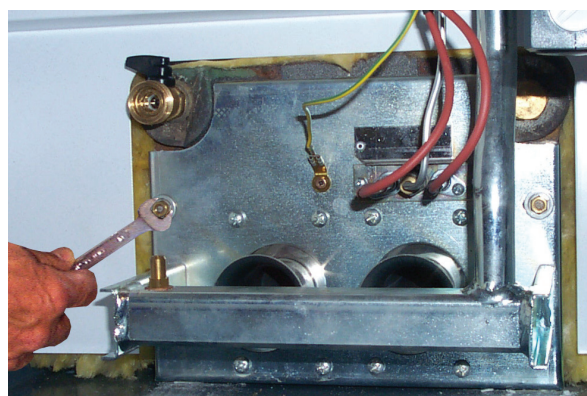

fig. 8
5. Undo the two nuts fixing the combustion chamber door to the cast iron elements of the boiler (fig. 8)